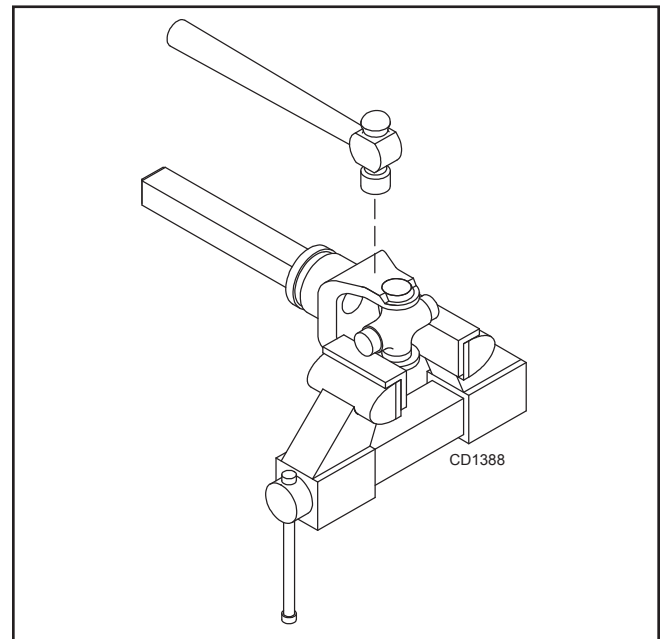

Figure 30
4. Place universal cross in vise as shown in Figure 30 and tap on yoke to remove cup. Repeat Step 3 for final removal. Drive remaining cup out with a drift and hammer.